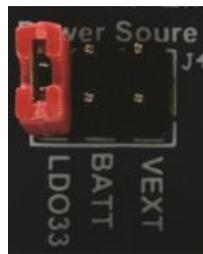

Figure 7. Power Source Selection
- System power selection: As shown in the Figure 7, if the jumper is connected to the LDO33, the power is supplied by the USB port; if the jumper is connected to the BATT, the power is supplied by the battery holder, which is powered by two 1.5V AA batteries on the back of the board; if the jumper is connected to the VEXT, the power is supplied by the external power as shown in Figure 9. It should be noted that the maximum operating voltage of the external power is 3.6V.